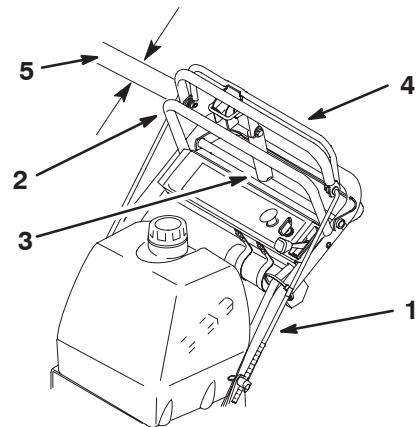

Figure 9
3. Check the gap between upper control bar and fixed bar with wheel drive fully engaged. Gap should be approximately 1 to 1-1/4 inch (25-32 mm) (Fig. 9).